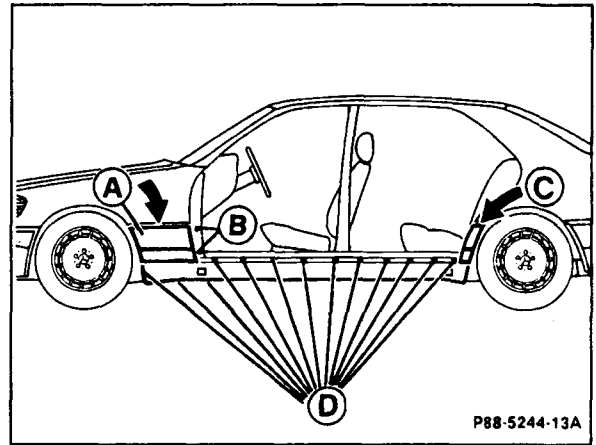

Figure 9
1. Remove side panel from front fender by removing mounting nut (A, Figure 9) and mounting screws (B) on A-pillar. Using a plastic wedge, disengage top of side panel and slide out from the rocker panel cover.
2. Using a plastic wedge disengage the top and bottom of the side panel (C, Figure 9) and slide out from the rocker panel cover.
3. Pull rubber seal out of original rocker panel cover retaining slot. Remove upper and lower mounting screws from cover (D, Figure 9). Using plastic wedge, disengage sill from fasteners. Press mounting clips out of cover. Pull out retaining strap for jack point cover.